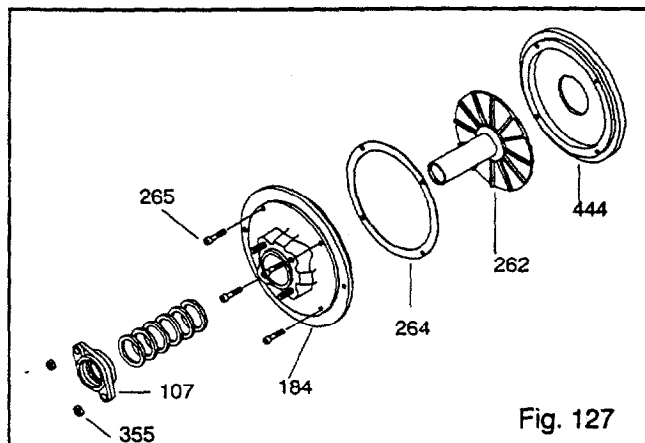

Fig. 127
1. Place backplate (444) flat side down on the bench (Fig. 127).
2. Place repeller (262) in backplate (444), sleeve side up.
3. Place teflon gasket (264) on backplate (444), lining up holes.
4. Place stuffing box cover (184) on backplate (444), lining up holes.
5. Install four (4) socket head cap screws (265), tighten securely.
7. Install gasket (360Q) and gland (107) on stuffing box cover (184). Install nuts (355).